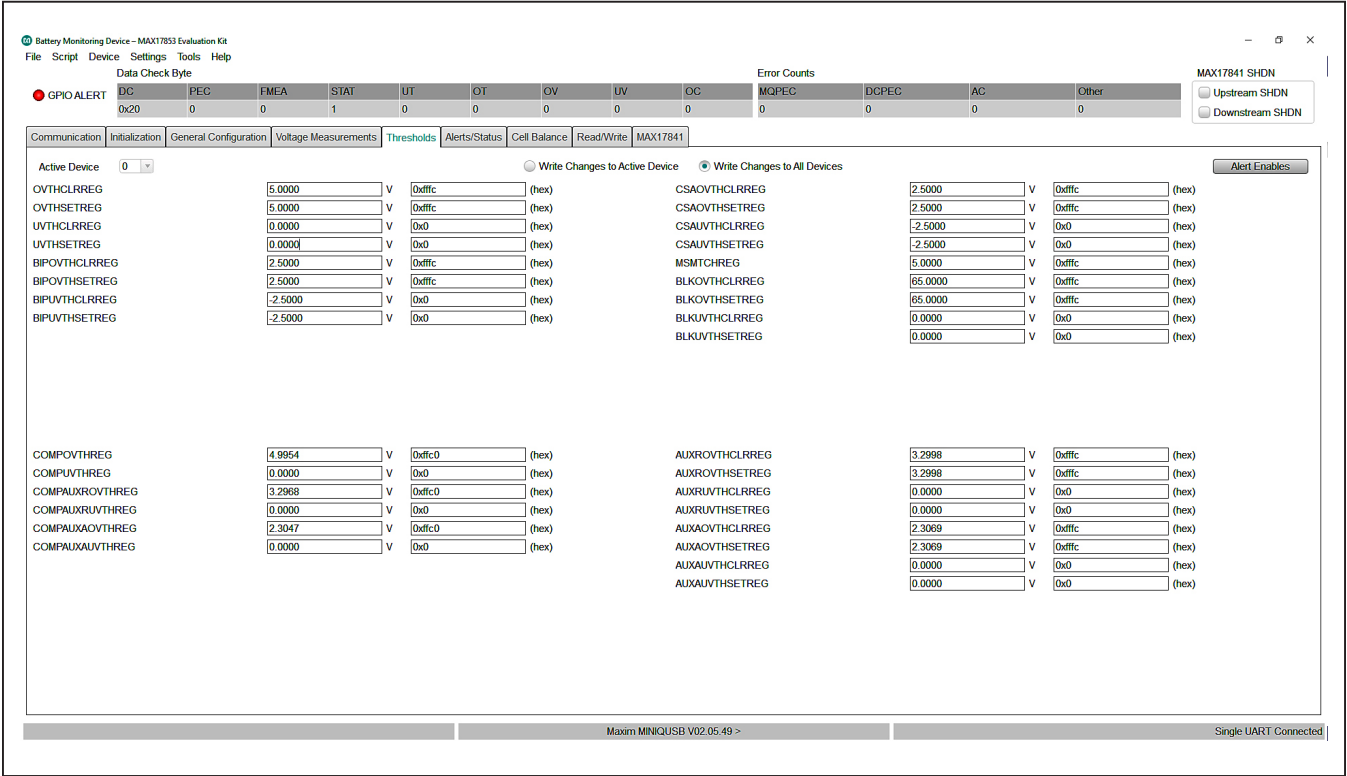
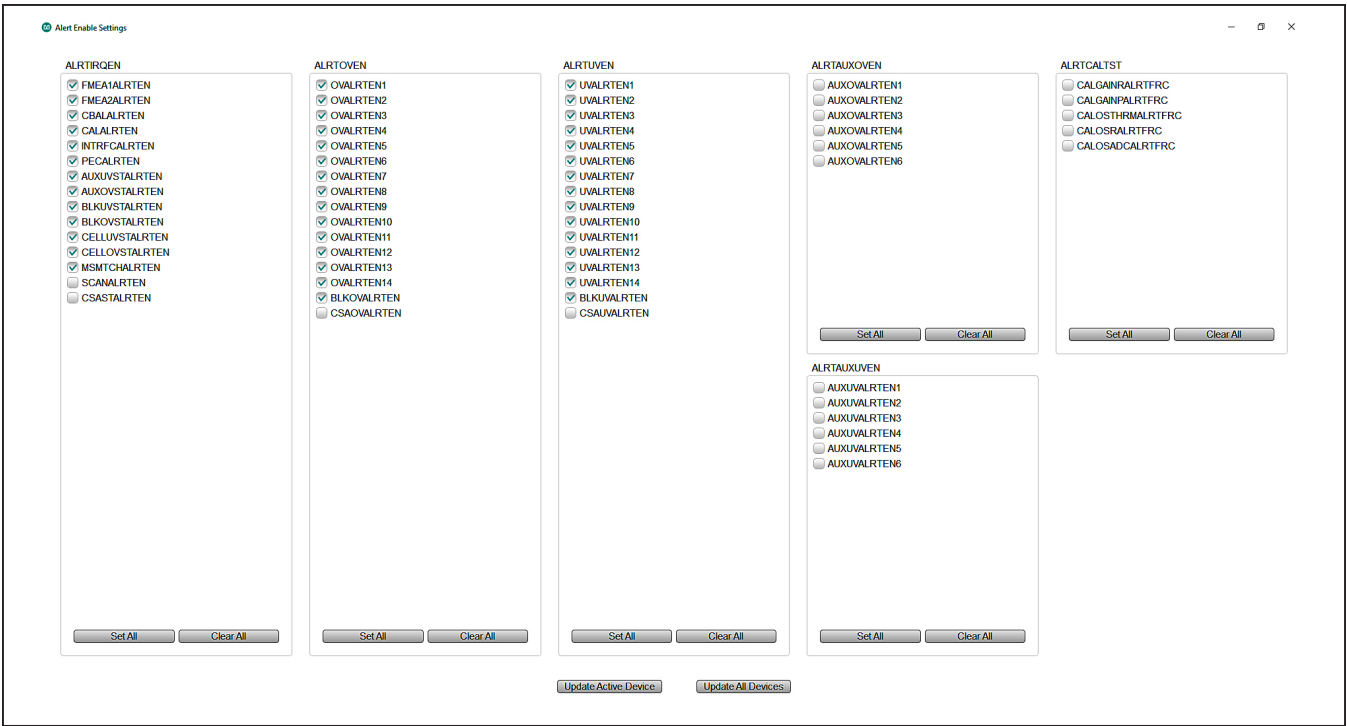

Figure 18. Thresholds Tab
Figure 19. Alert Enable Panel
The lower right-hand corner in the **Voltage Measurements** tab displays a legend that indicates visually the state of each voltage measurement and comparator alert. For the visual alert to be active, the thresholds must be set and enabled in the **Thresholds** tab (Figure 18).
Clicking on the **Thresholds** tab (see Figure 18) opens the panel where users can enter OV/UV and fault thresholds in hex value or voltage (see Figure 19).
Clicking the **Alert Enables** button in the top-right corner of the **Thresholds** tab opens the **Alert Enable** panel (see Figure 19).
- 5) Select the **Thresholds** tab (Figure 18) and set the comparator and cell voltage threshold. Set **OVTHSETREG** to 1.41V, **UVTHSETREG** to 1.2V, **COMPOVTHREG** to 1.5V, and **COMPUVTHREG** to 1.1V (threshold values automatically adjust to the closest hex value).
- 6) In the **Thresholds** tab, click the **Write Changes to All Devices** radio button, and then open the Alert Enables panel (Figure 19) by clicking the **Alert Enables** button. Click the **Set All** button for **ALRTOVEN** and **ALRTUVEN** to command the MAX17852 to check the OV/UV condition. In the **Alert Enables** panel, the user can mask OV/UV faults. The user can also mask faults from generating an alert output activation by unchecking the appropriate checkboxes in the **ALRTIRQEN** group box. Finally, click the **Update All Devices** button at the bottom and close the panel.